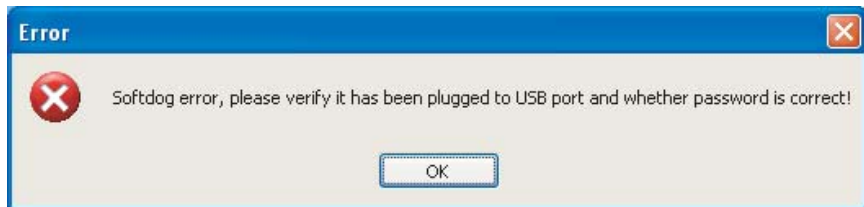

Fig. 4-6
- 4) When logging in, you must insert the Softdog provided by manufacturer to the computer, otherwise, the system cannot be logged in and the window as Fig. 4-6,and the Softdog Error would show as follows.